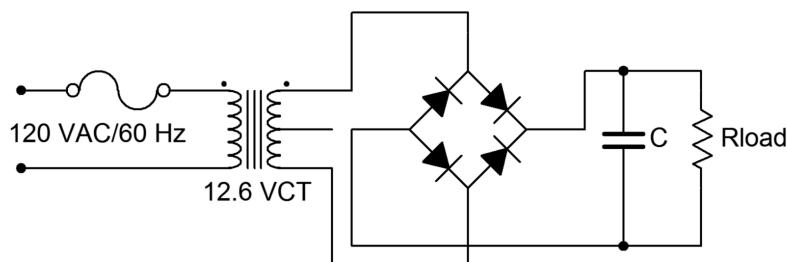

Figure 1
1. First, note that the circuit of Figure 1 is being powered directly from the AC line. Treat it with appropriate caution. It is worth repeating that any circuit should be de-energized when making any changes to it.
2. Consider the circuit of Figure 1 without the capacitor connected. For a positive polarity of secondary voltage, the upper right and lower left diodes will be forward biased and allow current to flow through the load from top to bottom. The other two diodes will be reverse biased. For a negative secondary polarity the opposite occurs. That is, the upper left and lower right pair will be forward biased while the other two are reverse biased. This arrangement will also cause load current to flow through the load from top to bottom, thus effectively flipping the negative polarity portion of the wave.
3. Build the circuit of Figure 1 with $R_{load} = 1 \text{ k}\Omega$ and C disconnected (open). This represents a very lightly loaded case. Under light loads, the output of the secondary will often be a little higher than the rated potential. Set the oscilloscope input to DC coupled. Measure and record the voltage across the secondary and then across the load. Do **not** use two probes to do this simultaneously as these two measurements do not share a common ground. Doing so will short out a portion of the circuit. Record the results in Table 1 and capture an image of the load voltage display.